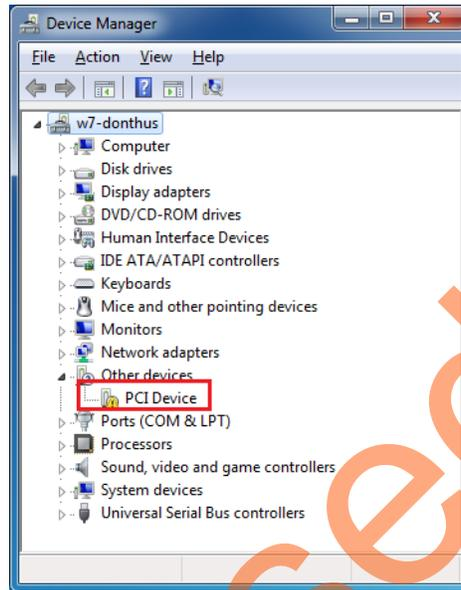

Figure 10 • Device Manager
2. Power on the Host PC and open the host PC Device Manager for PCIe device as shown in Figure 10. If the PCIe device is not detected, power cycle the IGLOO2 Evaluation Kit board and click **scan for hardware changes** in Device Manager.
- b. The DEVICE uninstall window is displayed as shown in Figure 12. Select **Delete the driver software for this device**. After uninstalling previous Jungo drivers, make sure that the PCIe device is detected in the **Device Manager** window as shown in Figure 10.